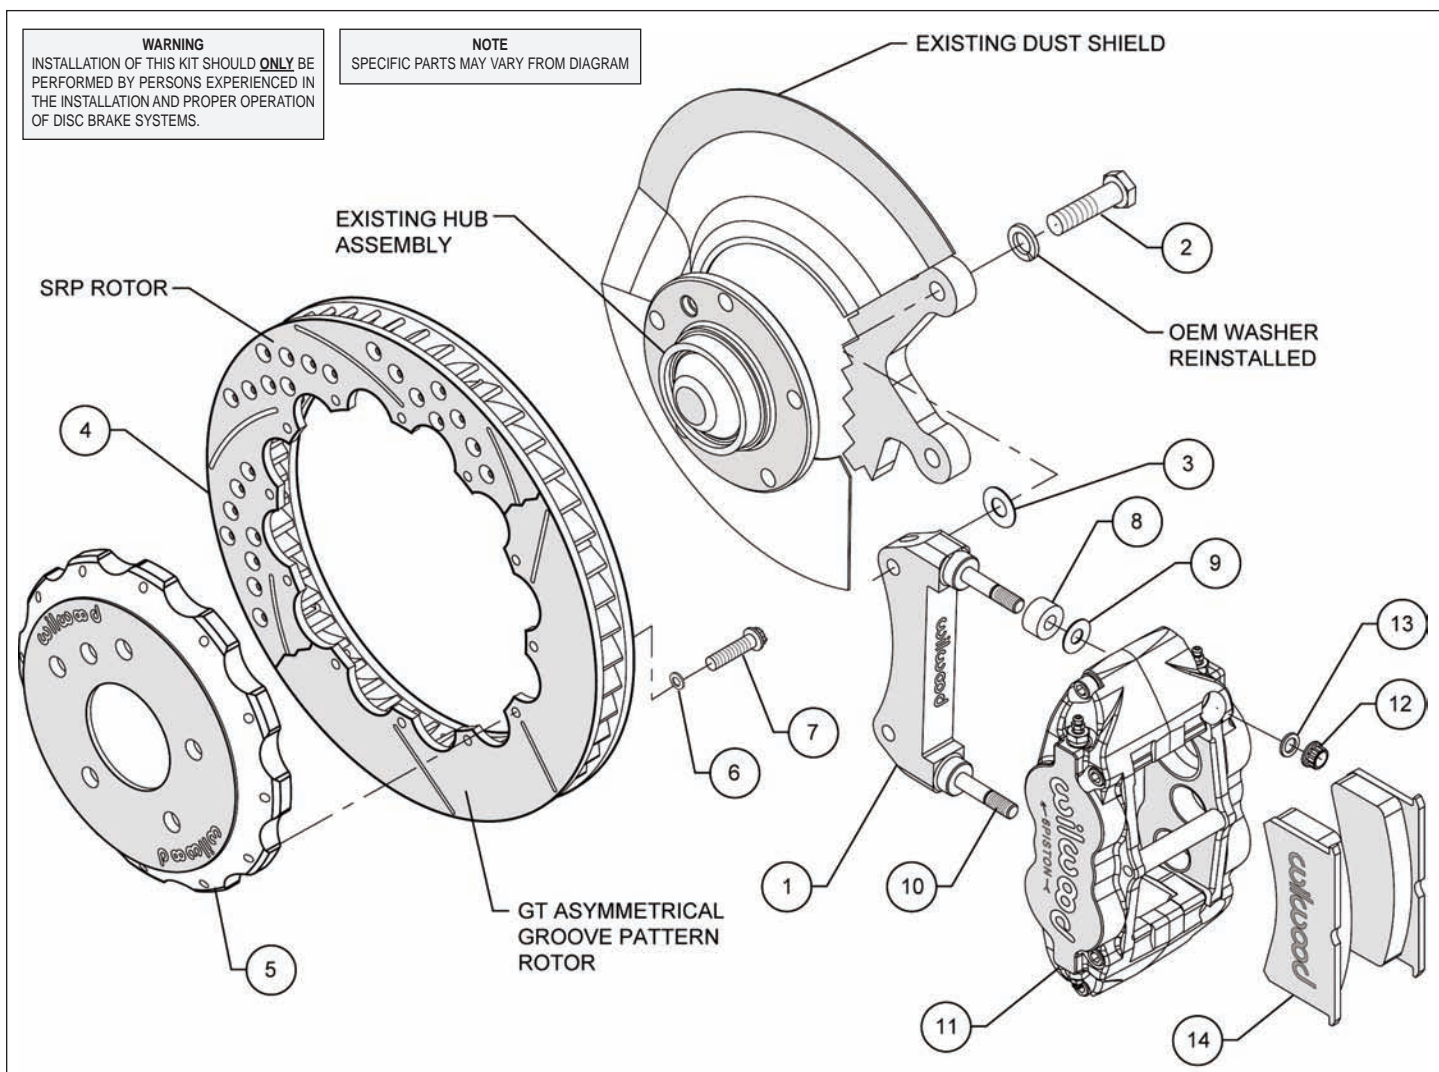

Figure 1. Typical Installation Configuration
- NOTE:** This kit contains distinct right and left hand calipers that must be mounted in a specific direction, as described below. Lubricate the caliper mounting studs (10) with lightweight oil. Initially place one .035" thick shim (9) and spacer (8) on each stud as shown in Figure 1. Mount the caliper (11) onto the bracket (1) using lock nuts (12) and washers (13), Figure 1. Ensure that the caliper is mounted so that the largest pistons are at the rotor exit end of the caliper, in relation to the direction of rotor rotation. Temporarily tighten the lock nuts and view the rotor through the top opening of the caliper. The rotor should be centered in the caliper. If not, adjust by adding or subtracting shims (3) between the bracket and the upright. Always use the same amount of shims on each of the two mounting bolts. Once the caliper alignment is correct, remove the bracket mounting bolts one at a time, apply red *Loctite*[®] 271 to the threads, and torque to 60 ft-lb.